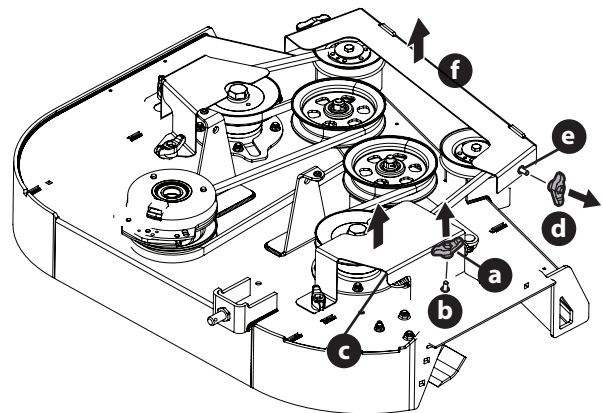

Fig. 41
3. Remove the wing knobs (a) from the carriage screws (b) securing the side belt covers (c) to the deck and remove the side belt covers (Fig. 41).
4. Remove the wing knobs (d) from the carriage screws (e) securing the front belt cover (f) to the deck and remove the front belt cover (Fig. 41).